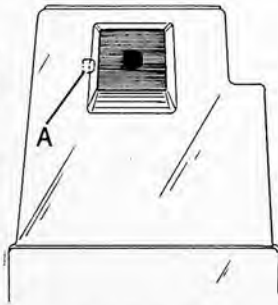

FIGURE 4
6. Cut out indented area (A, figure 4) in gear train guard and install guard with collet mounting bar extending through the hole.